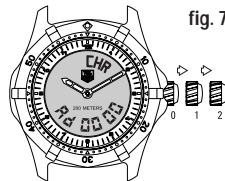

fig. 7
6.1. Measurement of a single time or addition of several times with automatic deduction of intermediate stops (AD) (fig. 7)